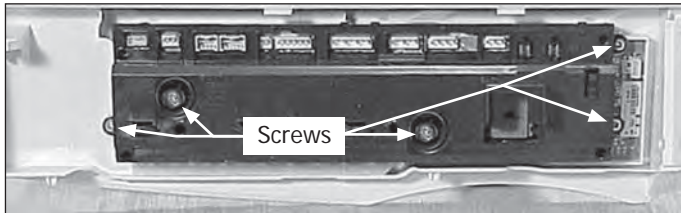

Figure 4-24.
2. Lay the console on a soft flat surface, remove the (5) screws holding the control to the console. (See Figure 4-24)